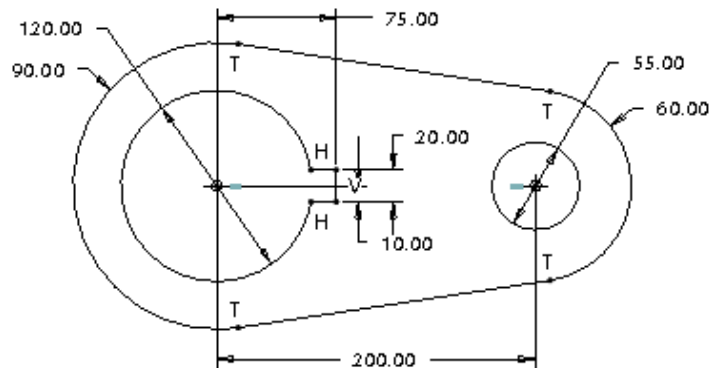

Figure 3-25 Sketch after modifying the dimensions
- e. Modify the dimensions, refer to Figure 3-25.
The sketch after modifying the dimension values of the sketch is shown in Figure 3-25.